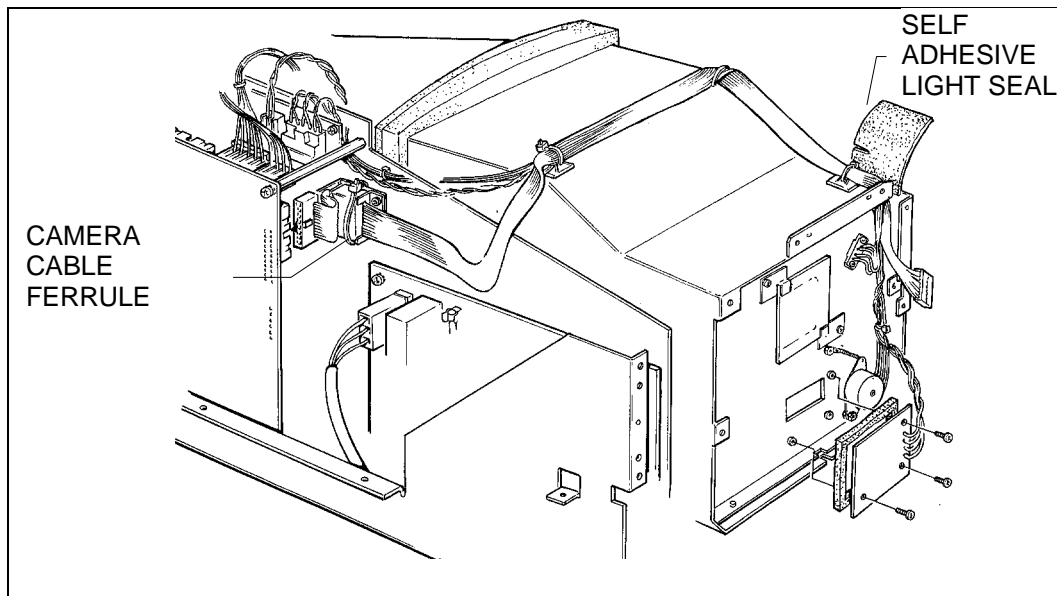

Figure 6-16. Removing the camera cable assembly
5. Carefully peel back the self-adhesive light box seal at the top right corner of the Front Panel Assembly. Fold it back far enough to expose the cables under it. (Figure 6-16)